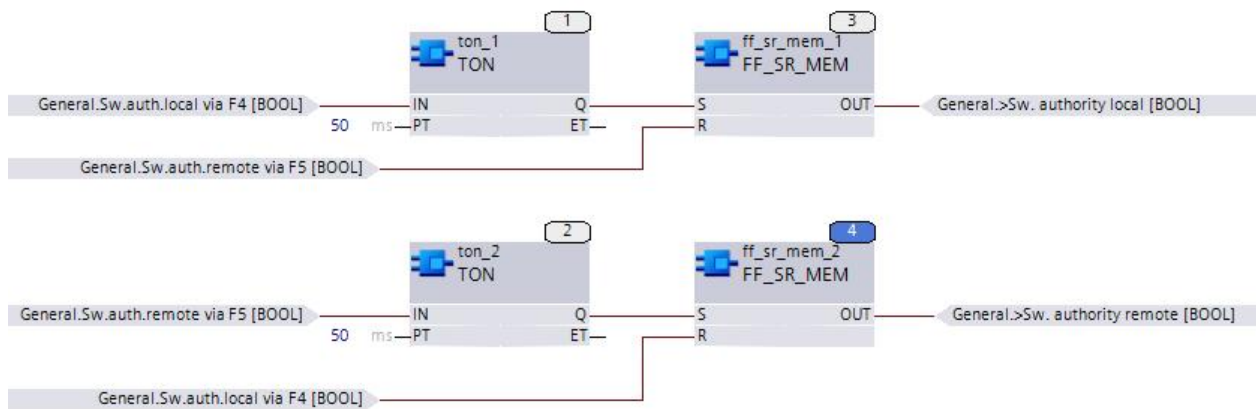

Figure 4: CFC chart for the activation of the switching authority with function keys
- Create the CFC plan as shown in figure 4.